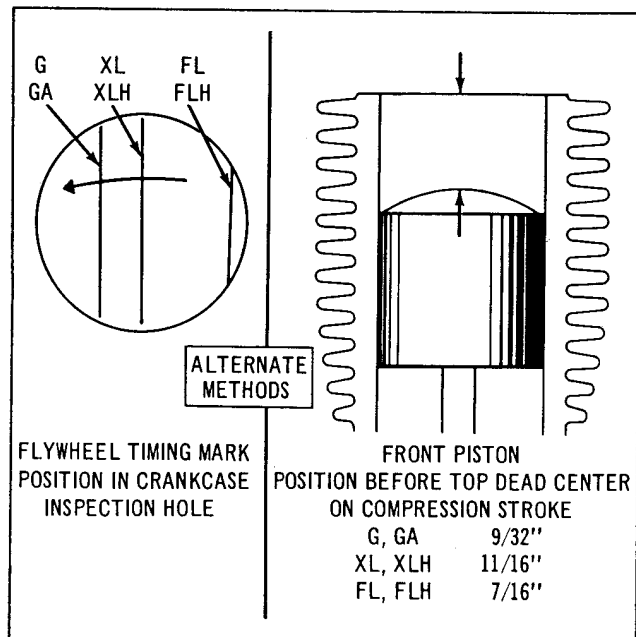

Figure 5F-3. Ignition Timing - Schematic
If the front cylinder head has been removed, engine can be timed by piston position as an alternative to timing by marks. Simply turn engine in direction in which it runs until front piston is located as shown in Fig. 5F-3. With piston in correct position, adjust circuit breaker so narrow cam lobe (the one with mark) just starts to open points when adjusting stud (15, Fig. 5F-1) is fully advanced.
DUO-GLIDE MODEL. Position circuit breaker base assembly on shaft and stem assembly wrapping wire (12, Fig. 5F-2) clockwise around shaft (27). Install base retainer (20), over wire, retainer end facing down and towards front cylinder (as positioned on motorcycle). Engage cover retainer (16, Fig. 5F-1), with holes in base as shown and register retainer ends in locating notches of (20, Fig. 5F-2).
Make sure timing mark (8, Fig. 5F-1) on circuit breaker base aligns with end of adjusting stud plate (10).
Install a new circuit breaker gasket (23, Fig. 5F-2) using gasket sealer. Temporarily insert circuit breaker assembly into gearcase, with base wire (12) towards rear of motorcycle and screw holes of housing (22, 22A) lined up with mounting holes in crankcase.
Move circuit breaker base (10) to fully advanced position (counterclockwise) and observe how close mark (3, Fig. 5F-1) on cam lobe lines up with lever fiber (2). If fiber (2) does not line up with timing mark (3), lift circuit breaker assembly and turn shaft gear so its engagement with its driving gear is changed one tooth. Again check breaker cam mark (3). Repeat this procedure until gear engagement is attained which closely aligns mark (3) and breaker lever fiber, then secure circuit breaker assembly to crankcase using Wrench, Part No. 94501-56 to tighten screws (21A, Fig. 5F-2). Install cylinder head as described in "Duo-Glide Cylinder Head," Section 3B.
SPORTSTER AND SERVI-CAR MODELS. Install a new circuit breaker gasket using gasket sealer. Insert circuit breaker shaft and stem assembly into gearcase cover with wire (12, Fig. 5F-2) inserted in hole of stem flange. Before engaging circuit breaker driving gears, turn shaft (27) counterclockwise approximately 60° from position where mark (3, Fig. 5F-1) on cam lobe lines up with breaker lever fiber block. Insert screws (21, Fig. 5F-2) snug, but not tight.
Temporarily position base on shaft and stem assembly in fully advanced position and observe how closely mark (3, Fig. 5F-1) on cam lobe lines up with lever fiber (2). If it does not line up remove screws (21, Fig. 5F-2), lift circuit breaker shaft and stem assembly from gearcase. Turn shaft gear so its engagement with its driving gear is changed one tooth. Check again according to breaker cam mark. Repeat this procedure until gear engagement is attained which closely aligns mark (3, Fig. 5F-1) and breaker lever fiber, (2). Then tighten screws (21, Fig. 5F-2). Position the circuit breaker base assembly on shaft and stem assembly wrapping wire (12) clockwise around shaft (27). Install base retainer (20) over wire, retainer end facing down and towards front cylinder (as positioned on motorcycle). Engage cover retainer (16, Fig. 5F-1) with holes in base as shown, and register retainer ends in locating notches of base retainer (20, Fig. 5F-2). An easy way to engage retainer end with retainer notch is to insert cover retainer (2) under flats of base retainer (20). Then, with a screwdriver, move base retainer (20) until its notches register with ends of retainer (2). Make sure timing mark (8, Fig. 5F-1) on circuit breaker base aligns with end of adjusting stud plate (10). Fully advance circuit breaker. If engine is in chassis, be sure spark control wire is correctly adjusted so that circuit breaker base is advanced (rotated counterclockwise) to its stop when handlebar grip is fully advanced. Timing mark (3) on top edge of circuit breaker cam should now align perfectly with breaker arm fiber cam follower (2).
Always check ignition timing with cover (1, Fig. 5F-2) installed and held in place with retainer (2).
If engine is installed in chassis, connect one test lamp wire to coil wire (12, Fig. 5F-2). Connect the other test lamp wire to the engine. Turn ignition switch on. With points open, lamp will light, and with points closed, lamp will be out.
With circuit breaker fully advanced against its stop and flywheel marks correctly positioned as shown in Fig. 5F-3, contact points should just begin to open, light on. The instant direction is reversed (spark retarded) from full advance stop position, points should begin to close, "light off."
If the contact points remain closed, "light off," in the fully advanced position timing is late. Loosen adjusting stud lock nut (9, Fig. 5F-1) and shift circuit breaker base counterclockwise until contact points just begin to open, "light on," in fully advanced position.
If the contact points begin to open, "light on," before circuit breaker is in fully advanced position, timing is early. Loosen adjusting stud lock nut (9, Fig. 5F-1) and shift circuit breaker base clockwise until contact points just begin to open, "light on," in fully advanced position. Retighten lock nut (9) after circuit breaker base is shifted to insure a true adjustment and test lamp reading. Repeat this procedure until correct ignition timing is achieved. Be sure to keep flywheel mark correctly positioned during the entire procedure.
With circuit breaker points correctly adjusted, cover (1, Fig. 5F-2) assembled and test lamp installed as described under the preceding heading, turn engine in direction in which it runs until front piston is on compression stroke. Continue to turn engine very slowly until points just begin to open, "light on." Flywheel mark should be correctly located in inspection hole as shown in Fig. 5F-3.
If timing mark is forward of correct position as shown in Fig. 5F-3, timing is late. If timing mark is to the rear of correct position as shown in Fig. 5F-3, timing is early. In either case, re-adjust timing as previously described under "Checking Ignition Timing With Test Lamp."
If engine is out of chassis, connect one test lamp wire to coil wire (12, Fig. 5F-2). Connect the other test lamp wire to battery positive terminal. Ground battery negative terminal to engine. With points open, lamp will be out, and with points closed, lamp will light, exactly opposite from a test lamp connected to an engine in its chassis.